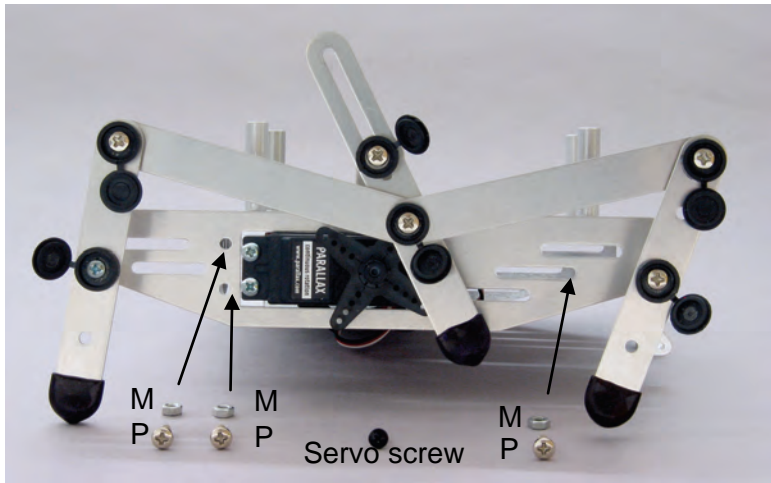

Fig 18
(2)	Servo Horn Screw (from your servos)
Use **Fig 18** as a guide. Line up the Crawler Side Panels to your robot and slip the servo horn on the servo. Secure the Crawler panels with screws (P) and nuts (M). If using a 5-cell or Li-ion battery pack, install the rightmost screw shown in **Fig 18** with the screw-head facing inside the chassis, and nut connected on the outside.